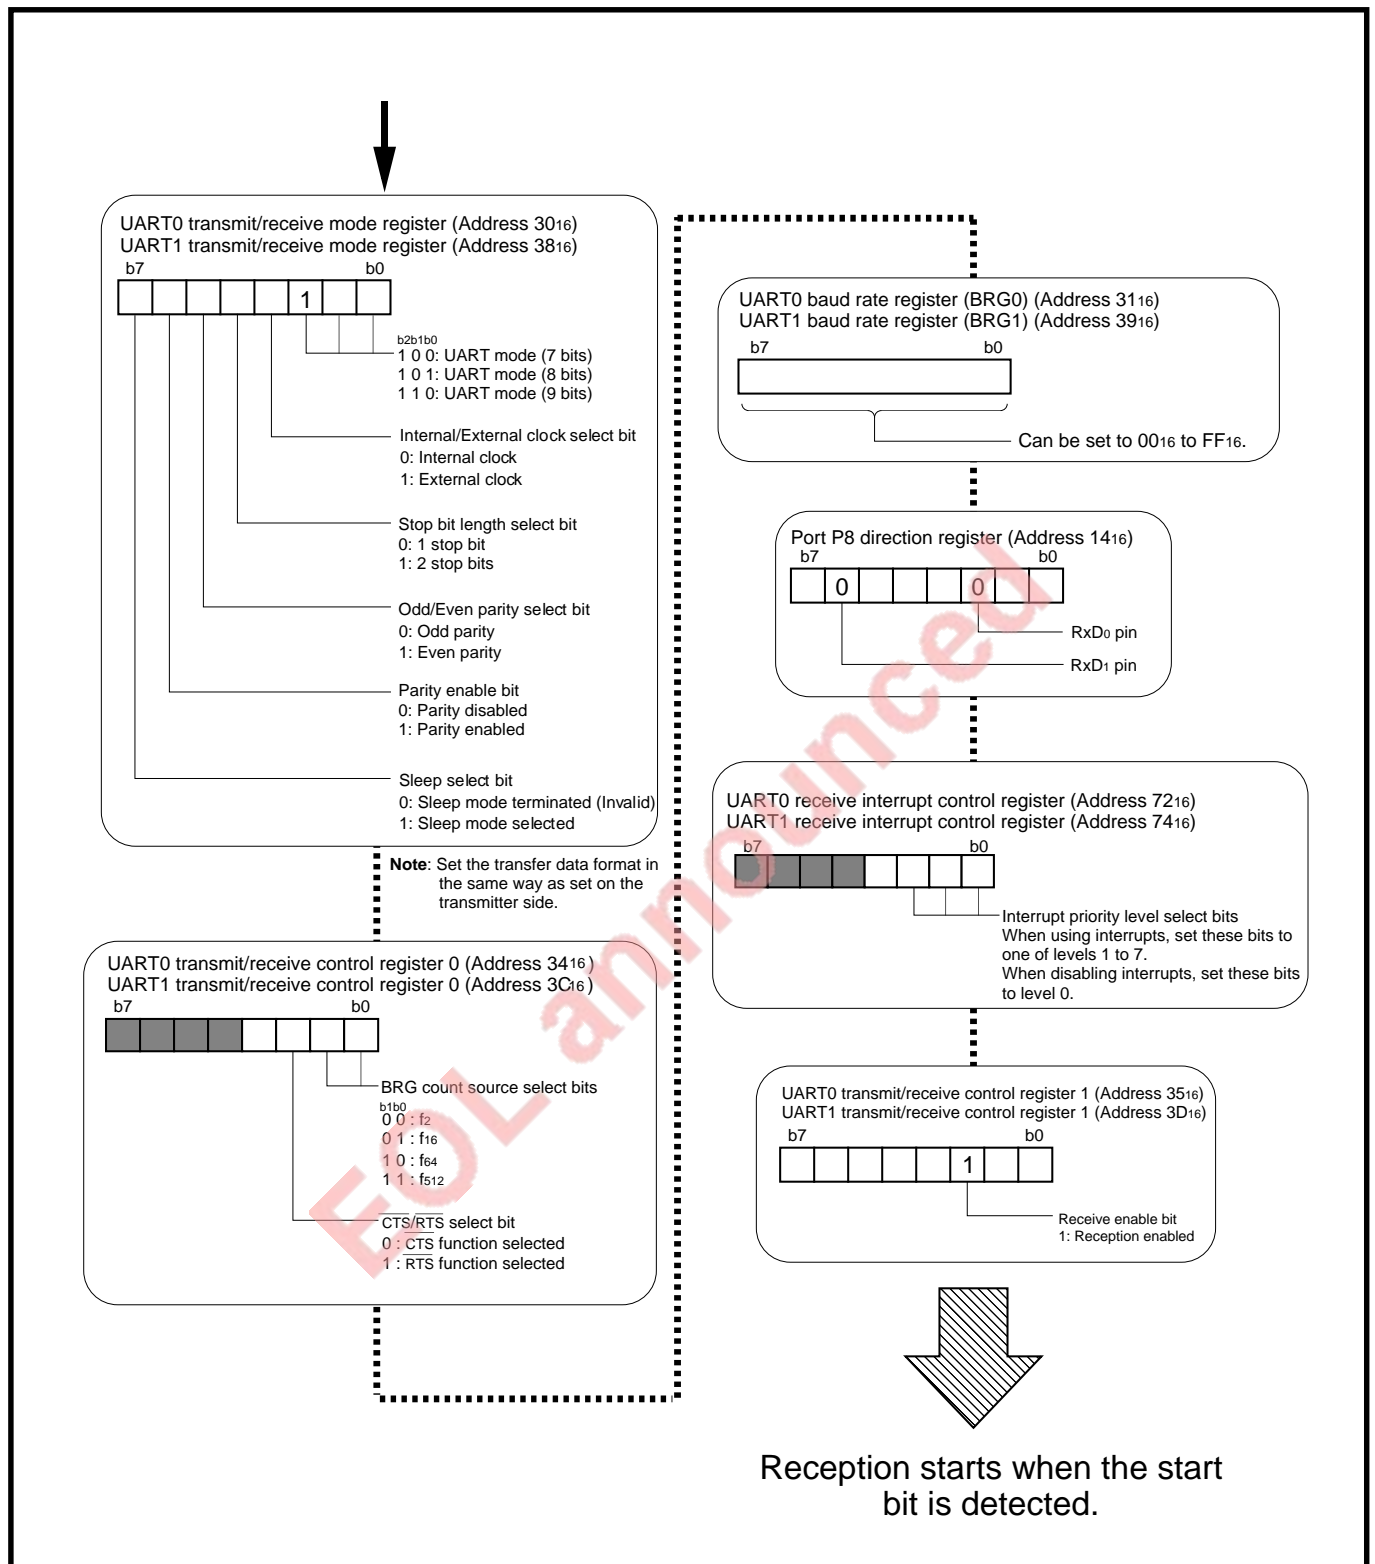

Fig. 11.4.9 Initial setting example for relevant registers when receiving
Figure 11.4.9 shows an initial setting example for relevant registers when receiving. Reception is started when all of the following conditions (① and ②) are satisfied:
- ① Reception is enabled (receive enable bit = “1”).
- ② The start bit is detected.